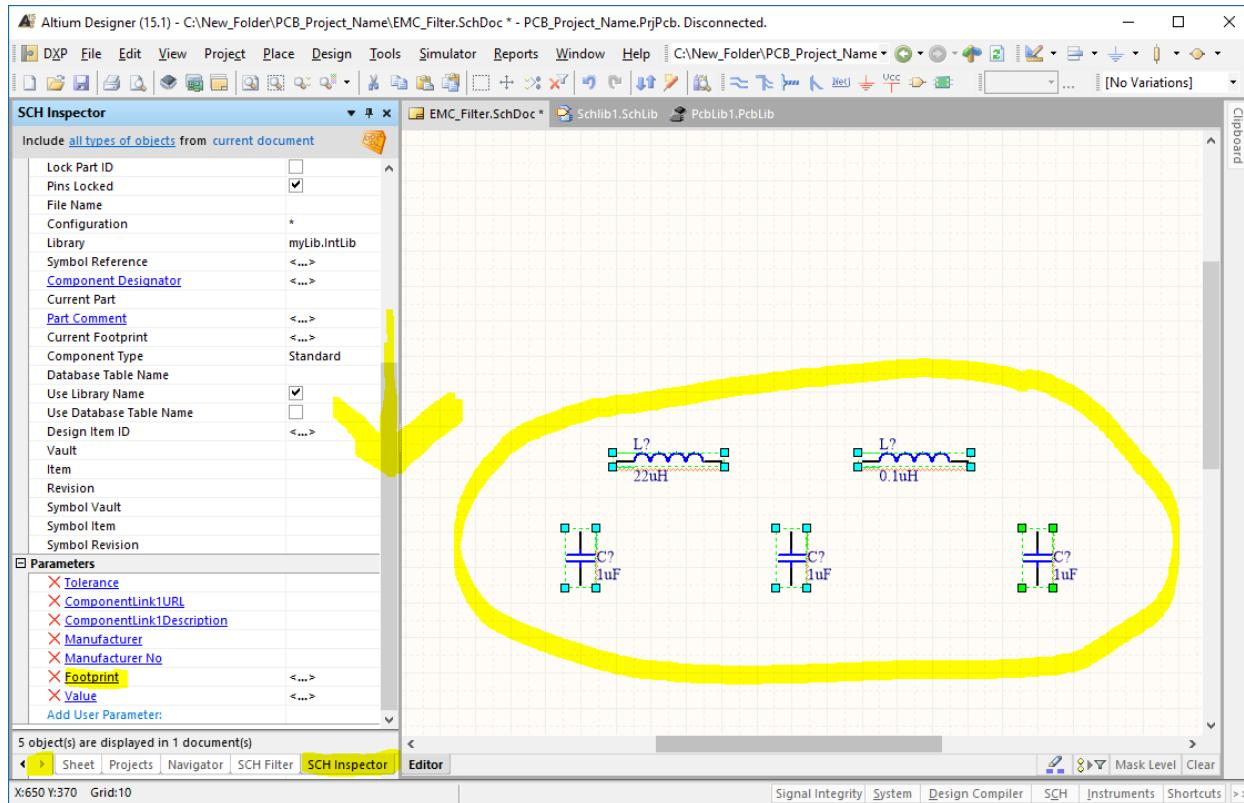

Figure 51: Altium Schematic placed C and L components.
30. Your schematic sheet should look similar to Figure 51. At this point we introduce a new dialog the SCH Inspector which comes into really handy by changing a lot or a group of components as well as the SCH Filter which is not discussed further because we will discuss the PCB filter which provides similar functionalities later on.